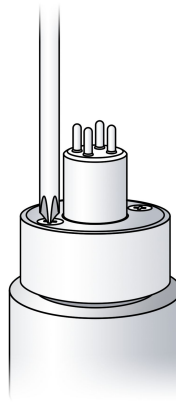

Fig 2
- Connect the Pure Water Connection (Fig 2)